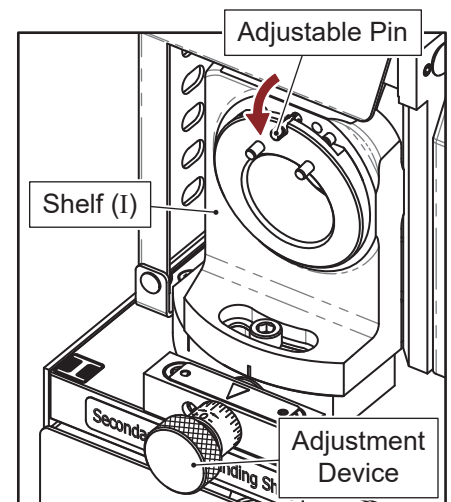

Fig. 14-1
1. Secondary Relief Grinding Shelf (I) (Fig. 14-1)
- ① Move the adjustable pin on the Shelf (I) from the top to bottom.
- ② Adjust the cutting face adjustment device to “0”, after finishing the whole sharpening procedure, then adjust this device according to your needs. (See chapter “IX. The use of the Cutting Face Adjustment Device”)